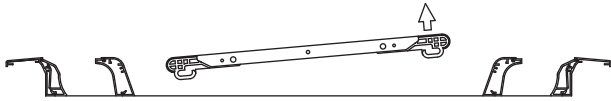
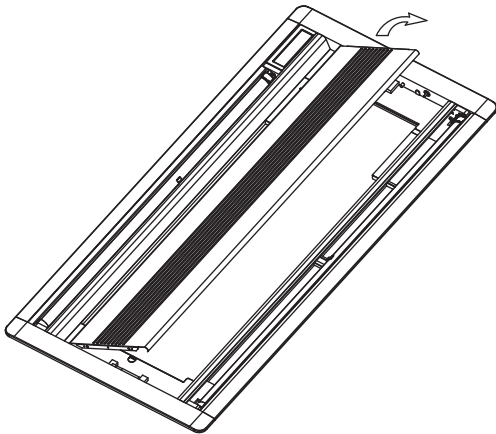

Fig.5-12
Fig.5-13
- 3) Slide the inhalation grating to remove it completely, as shown in Fig.5-12 and Fig.5-13.